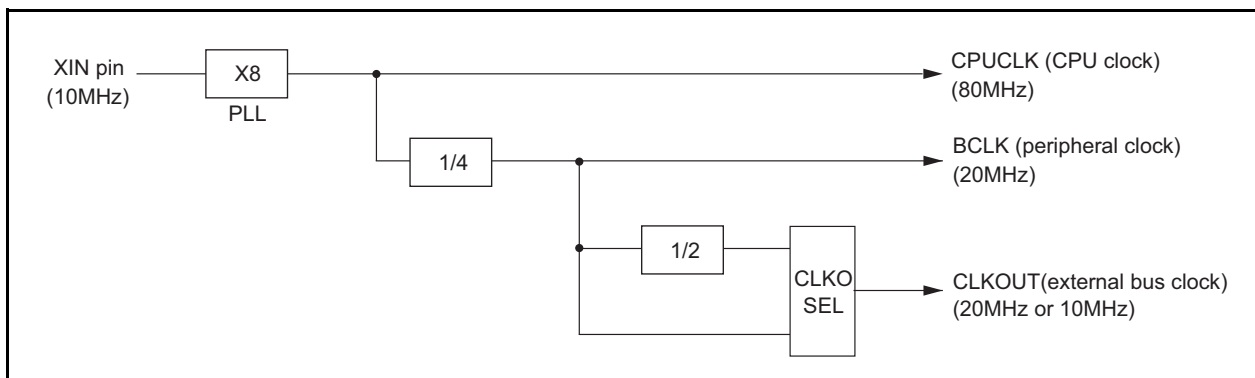

Figure 1.1.1 Conceptual Diagram of the Clock Frequency Multiplier
- The 32186 contains a clock frequency multiplier, which is schematically shown in Figure 1.1.1 below.